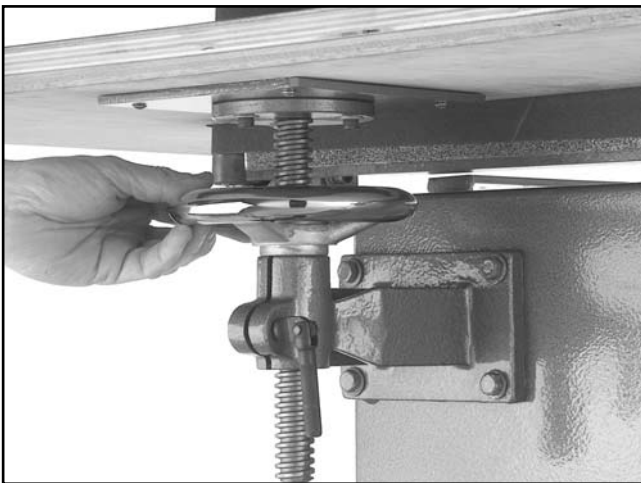

Figure 22. Lead screw handwheel.
2. Turn the lead screw handwheel (shown in **Figure 22**) to raise or lower the table to the desired height.